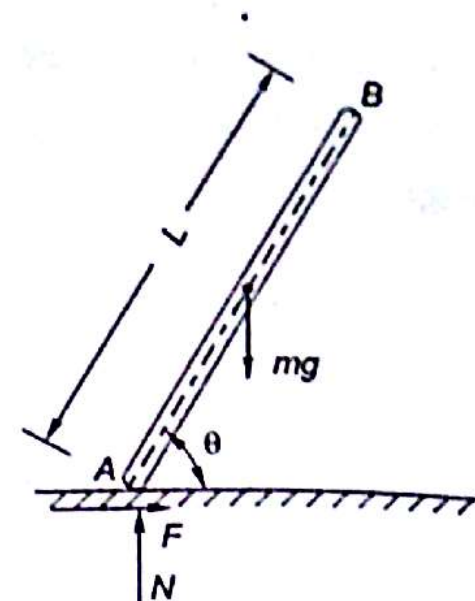

Fig. 17.12
- 17.4 A uniform rod of mass m and length L as shown in Fig. 17.12 is released from rest when angle $\theta = 60^\circ$. Assuming that the friction force between end A of the rod and the horizontal surface is sufficient after release of rod, determine (i) normal reaction and force of friction at end A, (ii) minimum value of coefficient of friction μ for the motion of rod.